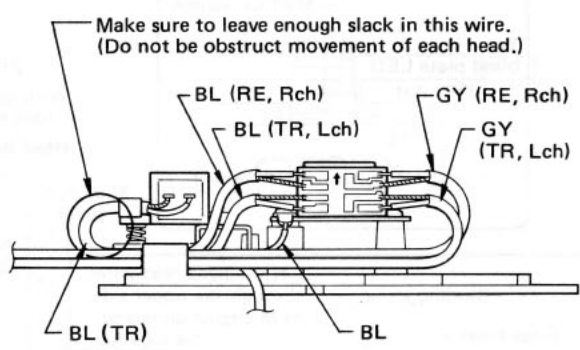

Fig. 9
- \* Refer to fig. 9 when connecting them.